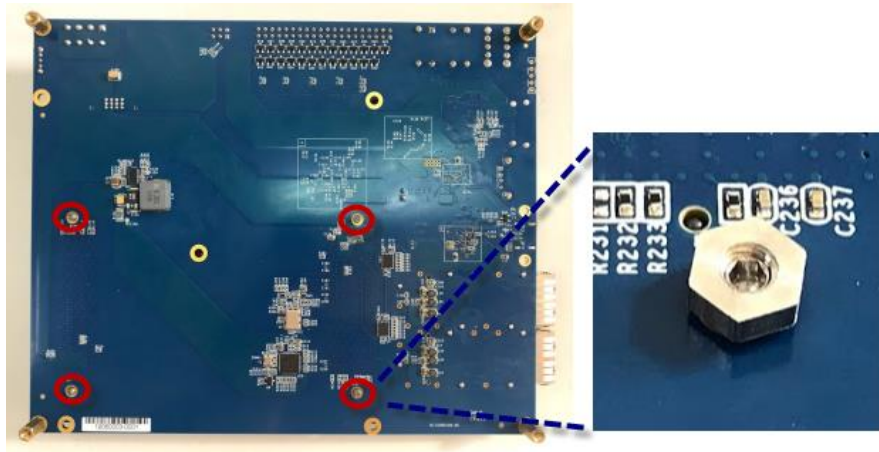

Figure 3-7 Disassemble Hex Nut
1. Unscrew four Hex Nut as shown in **Figure 3-7**.